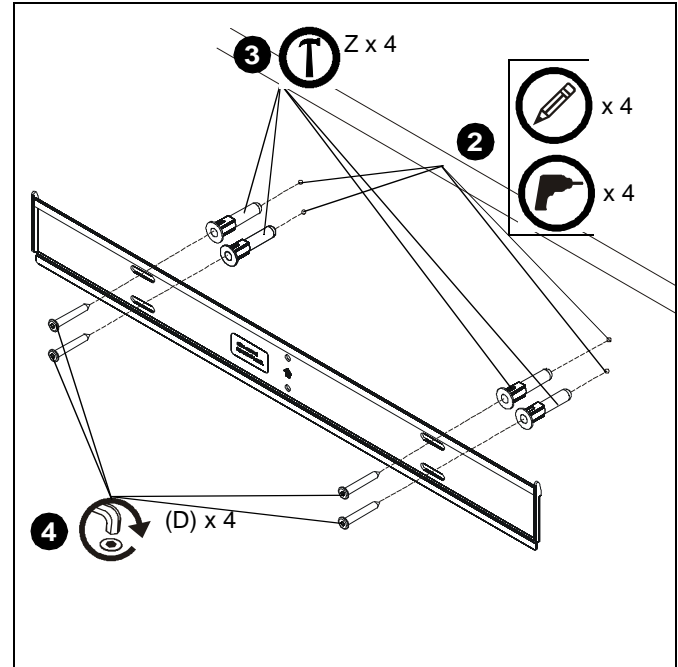

Figure 2
2. Using wall plate as a template, mark and then drill four 5/16" diameter pilot holes through mounting surface. Use level to make sure wall plate is perfectly horizontal. Holes must be drilled at least 2-1/4" deep. (See Figure 2)
3. Install four anchors (Z) into pilot holes drilled in Step 2. Use a hammer to tap anchors into holes. (See Figure 2)
4. Install four connector screws (D) through wall plate holes and into anchors. (See Figure 2)